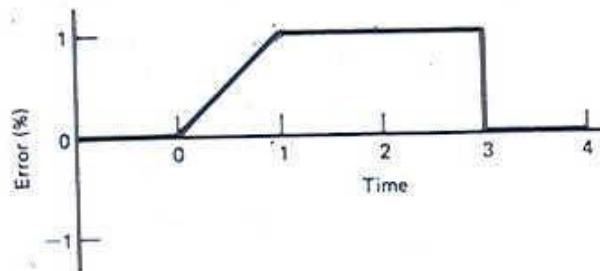

Figure-1
- (d) Plot a graph of proportional-Integral (PI) controller mode output as a function of time for the given error in figure-1. $K_P=5$, $K_I=1.0 \text{ S}^{-1}$ and $P_I(0) = 20\%$.